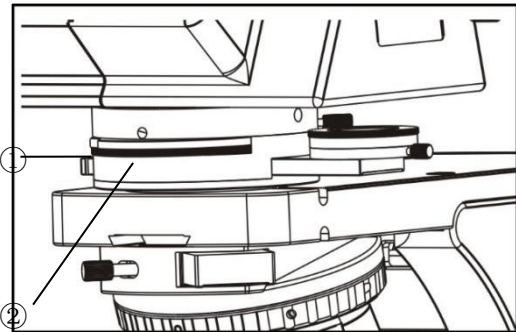

Figure 19
**3-16 The use of Bertrand lens (Figure 19)**
**3-17 Bertrand lens focusing (Figure 19)**